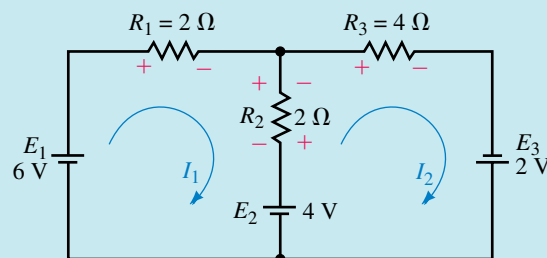

FIGURE 8-22
EXAMPLE 8-10 Find the current in each branch for the circuit of Figure 8-22.
Step 1: Loop currents are assigned as shown in Figure 8-22. These currents are designated I_1 and I_2 .